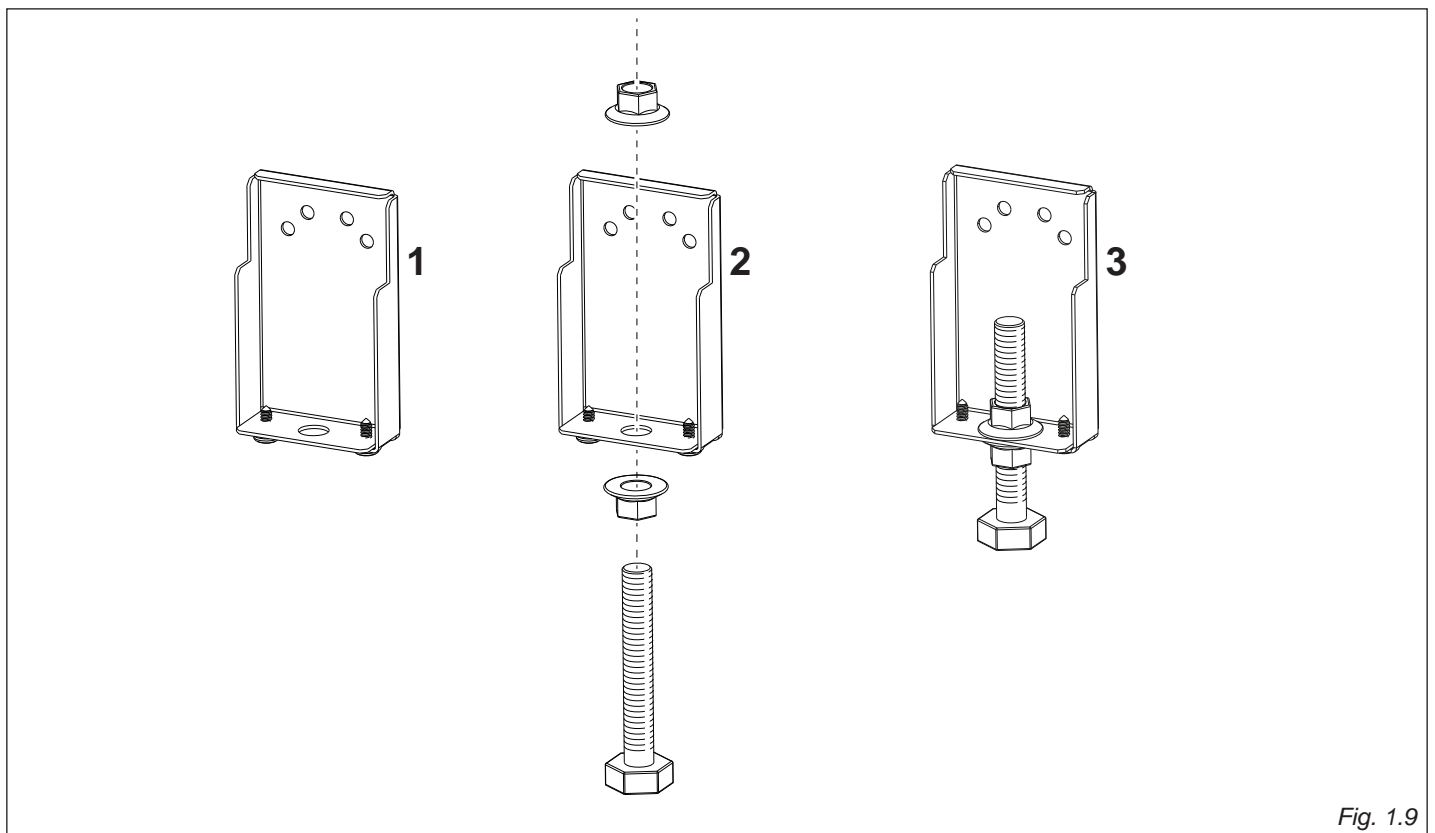

Fig. 1.9
The anti-tip bracket has two components (figs. 1.9, 1.11):
1. Thread the bolt through the adjustable bracket and fix in place using the two supplied nuts (fig. 1.9). Ensure the nuts are well tightened.